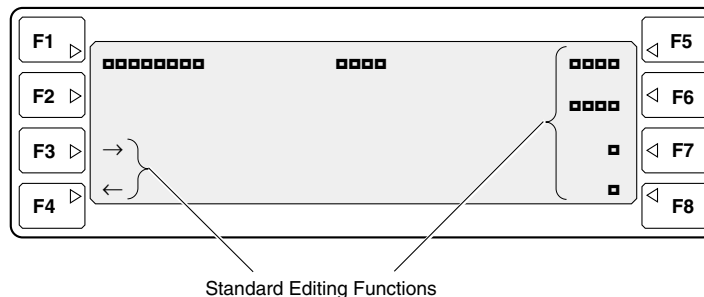

Figure 18. Standard Editing Screen
The standard editing screen provides the functions required for changing the values of editable data fields (see Figure 18). The function keys operate as follows:
1. Select the first entry on the menu – the standard editing screen (see Figure 18 on page 30) is displayed.